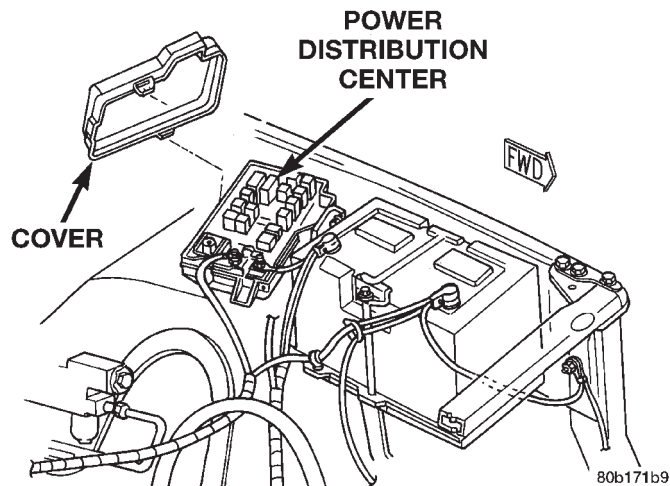

Fig. 31 Power Distribution Center
(1) Disconnect and isolate the battery negative cable.
(2) Remove the cover from the Power Distribution Center (PDC) (Fig. 31).